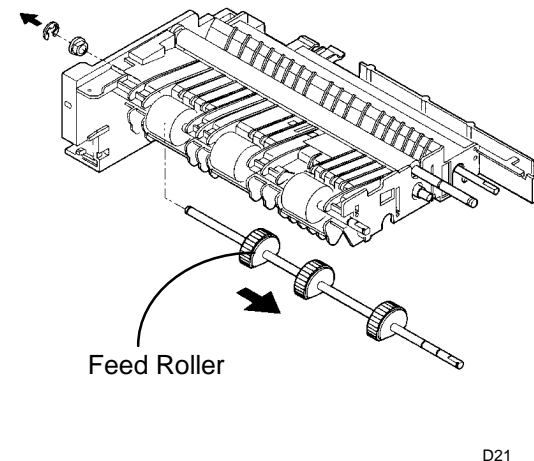

Figure 4. Removing the Feed Roller
6. (Figure 4): Remove the E-Ring and Feed Roller.